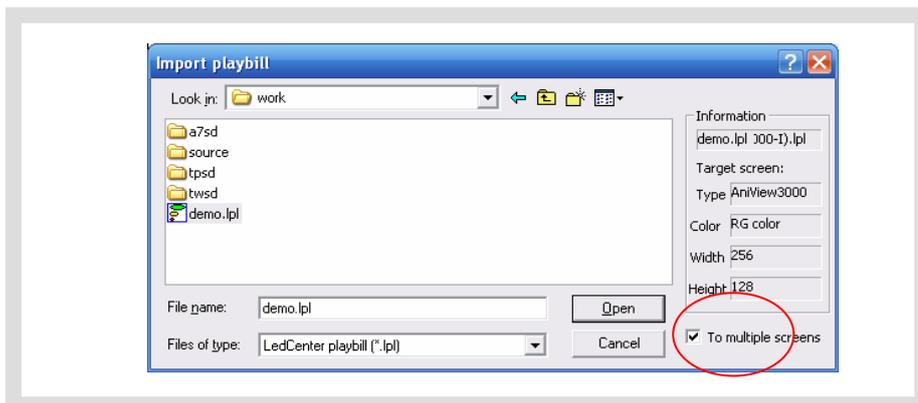
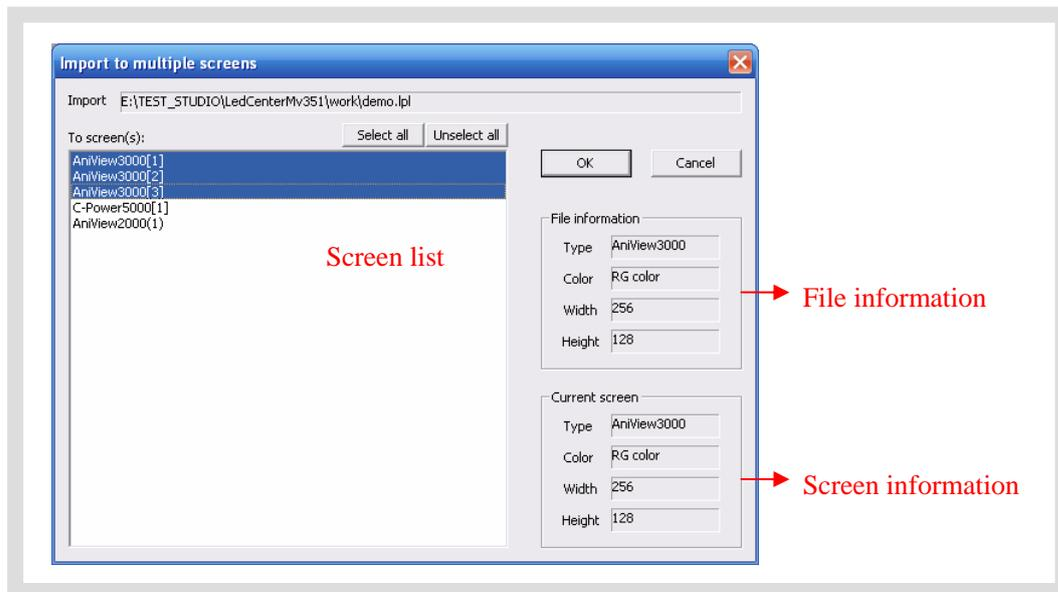

Figure31 Import playbill
Figure32 Import to multiple screens
- 2) In the dialog box “Import playbill” (as shown in Figure31), select the program file (*.lpl) to be imported. The “Information” at right side of the dialog box shows the screen parameters of the program file. Confirm the imported program consistent with the parameters of current screen.
- 3) Import to multiple screens: if select the option “To multiple screens” as shown in Figure31, a dialog box “Import to multiple screens” as shown in Figure32 pops up after a file is selected. Hold Ctrl key and click the screen list, user can select multiple screens, and then import the program file to multiple screens which is consistent with the file information.